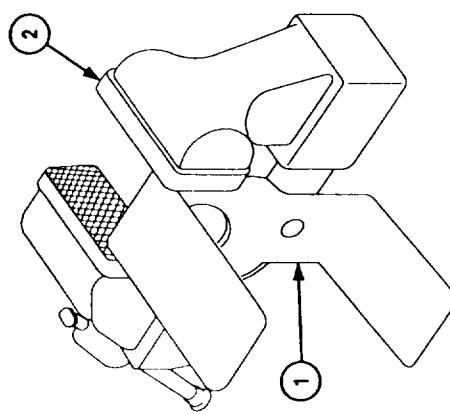

Figure 1
1. Support speedometer bracket (1) in a bench vise (2) as shown in figure 1.